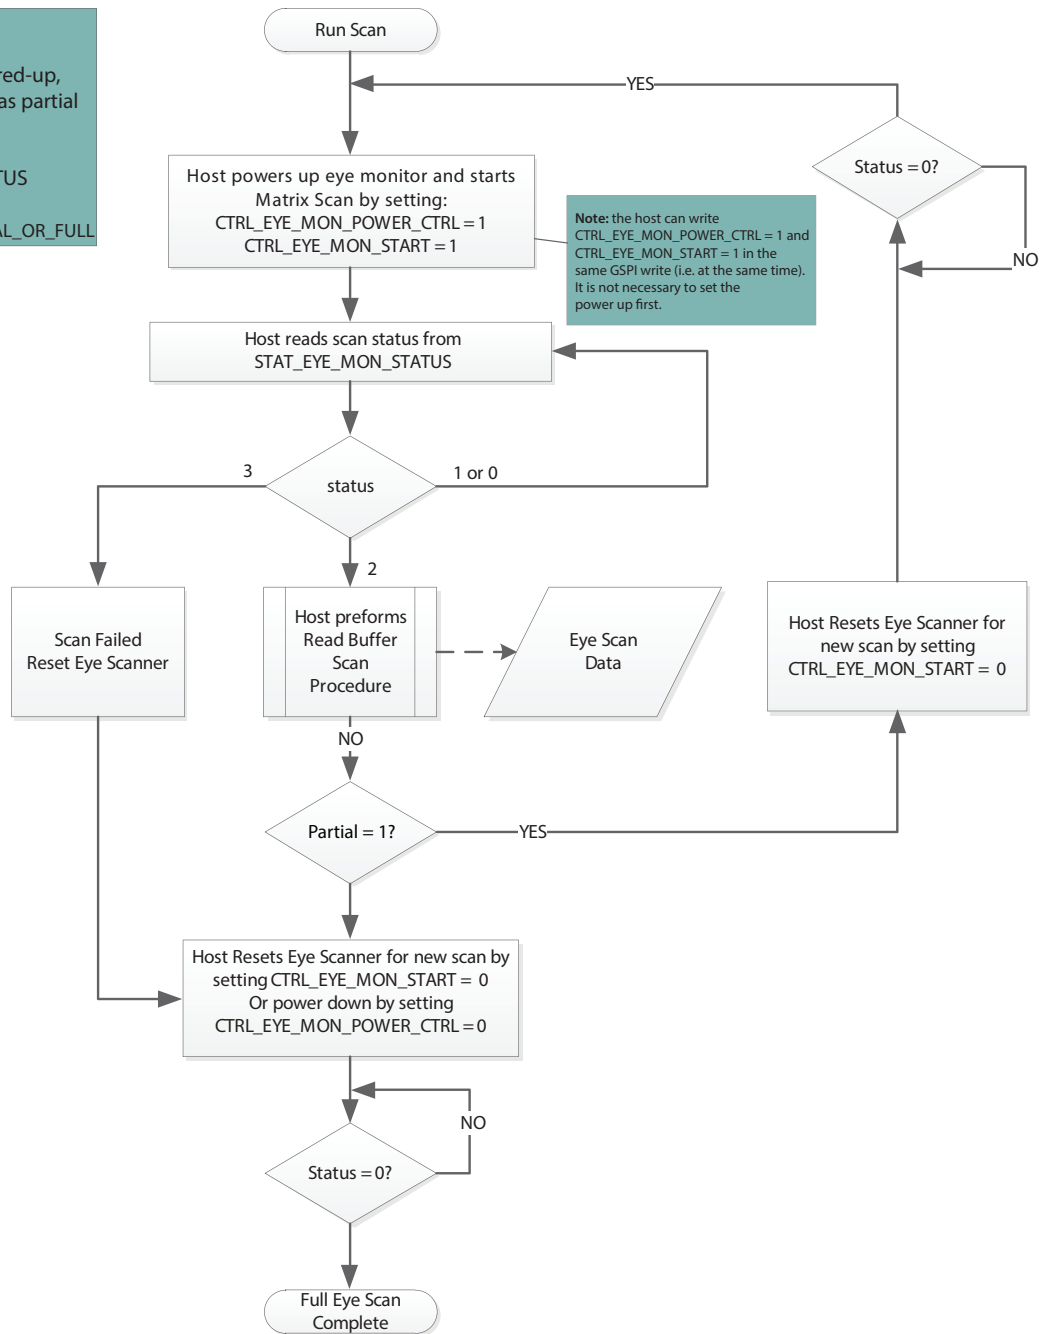

Figure 4-11: Matrix-Scan Flow Diagram
4. Start the scan and poll the scanner status register until the scan is complete. Refer to the flow diagram in Figure 4-11.